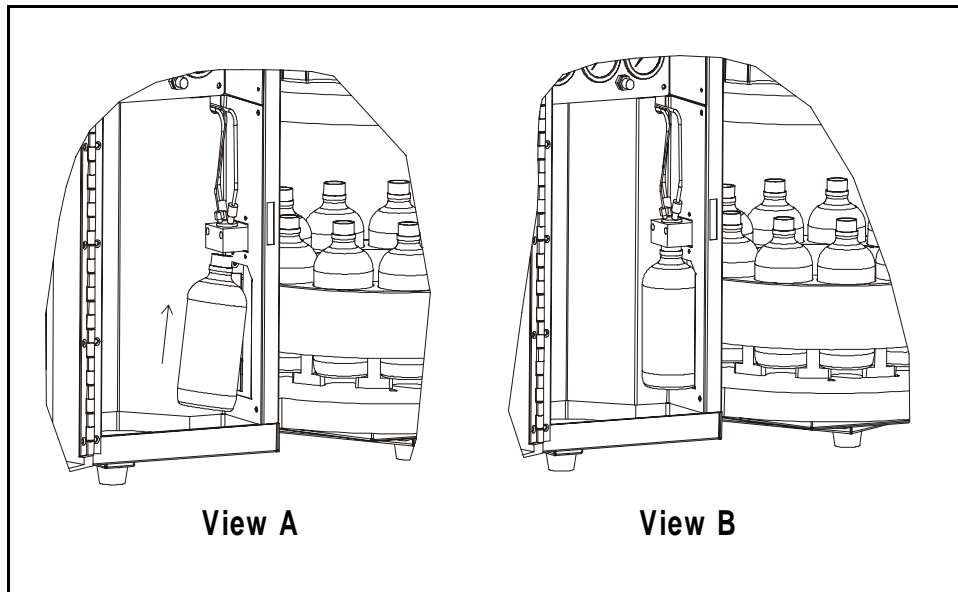

Figure B-9. Waste Bottle Installation
8. To install the waste bottle, tilt it at about a 15° angle and align the lip of the bottle with the opening under the top bracket of the holder (see Figure B-9, view A).
9. Push the lip of the bottle up into the top bracket and straighten the bottle until it is vertical and rests on the bottom ledge (see Figure B-9, view B). To remove the bottle, push it up. Then, tilt it out and pull it down and away from the ledge.